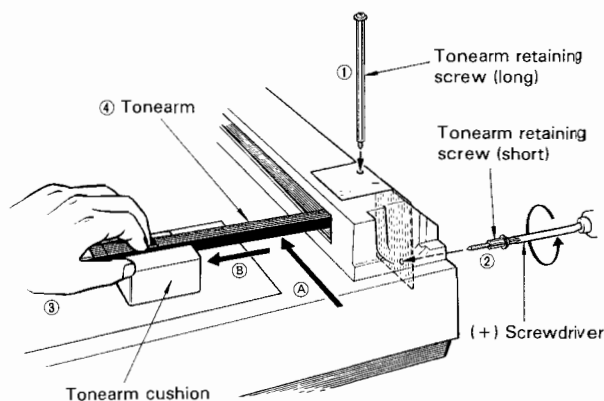

Fig. 16
2. Insert the tonearm cushion ③ under the tonearm in the direction of arrow ④ as shown in Fig. 16. Shift the tonearm cushion in the direction of arrow ⑤ until the cushion comes into slight contact with the tonearm. Then, shift the cushion about 15 mm (19/32") to the front.
3. Holding the tonearm ④ gently, install the shorter tonearm retaining screw ② (rear panel).